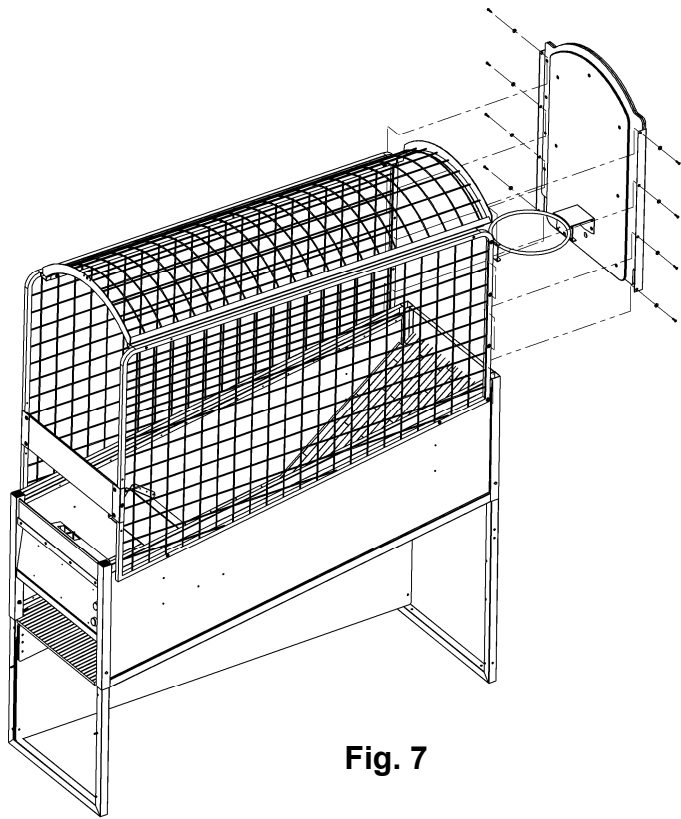

Fig. 7
Unwrap the Backboard assembly and attach to the Cage Assembly using (8) 1/4-20 x 5/8" button head screws and (8) flat black washers. It is recommended that one person gets inside the Cage while 2 others lift the Backboard Assembly in place. Attach using the included hardware. (4) 1/4-20 X 1-1/2 button head screws & (4) flat black washers (Note: the person getting into the game should remove their shoes to prevent scratching the floor boards inside the game) (See Fig. 7 on next page)